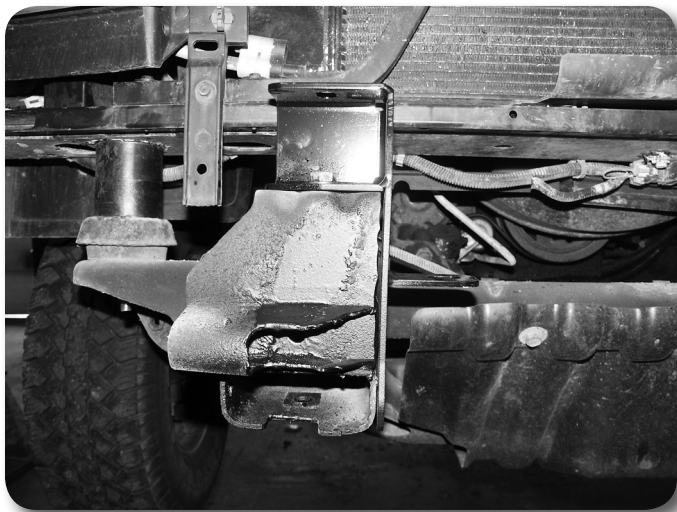

Figure 26A - Older model shown, newer model similar
62. Mount the new front bumper brackets to the factory bumper mount on the frame with the upper factory bumper mount bolt **Figure 26A**. Leave loose. The brackets are driver's and passenger's side specific and the lower mount tab should be on the inside of the frame. For vehicles equipped with tow hooks, the lower portion of the bumper brackets will be attached when the tow hooks are reinstalled.